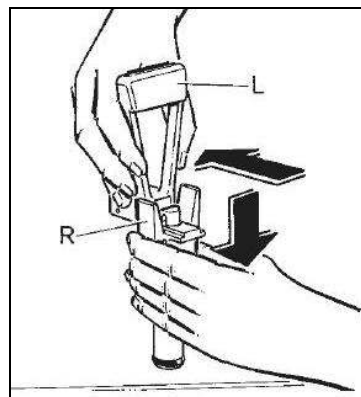

**Fig. 12**
- Simultaneously apply pressure to the two securing tabs (Q), and lift the dispensing tap (I) to pull it out of its fixed position (see figure 12).